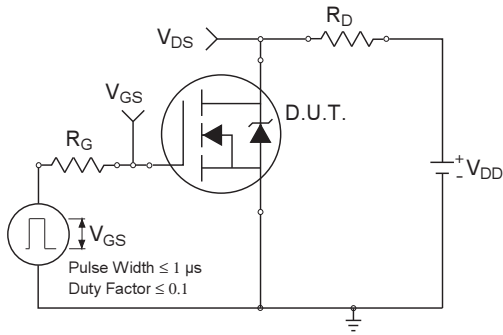

Fig 15a. Switching Time Test Circuit
| t_r | Rise Time | — | 25 | — | ns | $V_{DD} = 250V$ $I_D = 6.0A$ $R_G = 7.5\Omega$ $V_{GS} = 10V$, See Fig. 15a & 15b ④ |